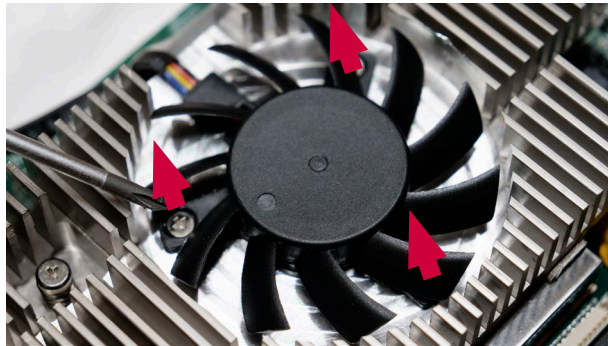

Figure 29 Remove the screws from the fan
b) Untighten the three screws holding the fan in place (Figure 29)
f) Insert and tighten the three screws (max. torque 0.3 Nm) holding the fan in place (see Figure 29)